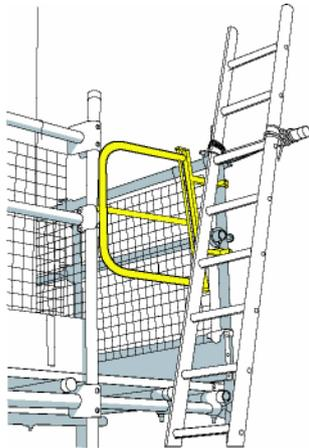

Fig 8
- ladders used for access should project at least 1 m above the landing point and be tied; alternatively a safe and secure handhold should be available (see Figure 8);